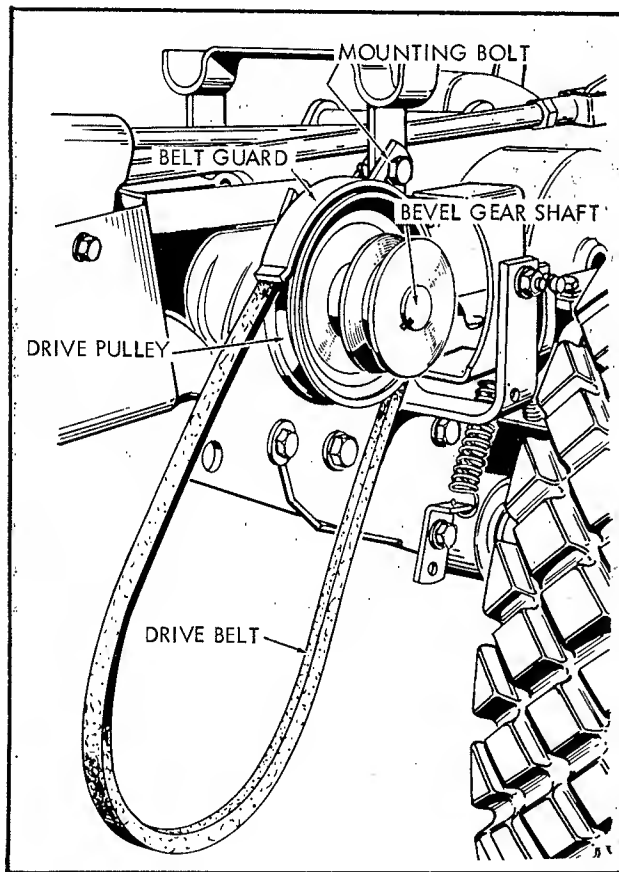

Fig. 1
1. Mount "V" Pulley to shaft of bevel gear assembly (see figure 1) and secure in place with key and set screw. Hub of "V" pulley is to face inwards. Place drive belt on "V" pulley and mount belt guard to the seat support as shown in figure 1. Allow approximately 3/16" clearance between the outside of the belt and the belt guard.